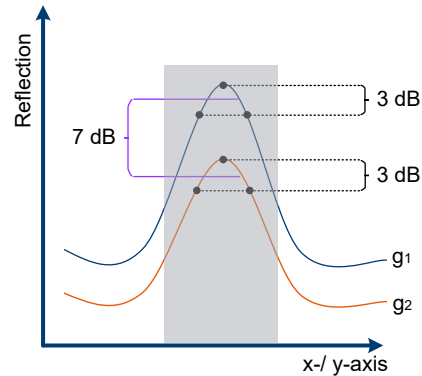

Figure 6-12: Reflection measurement with a correctly positioned DUT
2. Measure the reflection of the DUT positioned parallel to the measurement cluster. For a correctly positioned DUT that lies parallel to the measurement cluster, the measured reflection for a single horizontal line in the reflection image would look like the curve in Figure 6-12. This example uses a flat DUT with a mean reflection of -7 dB.